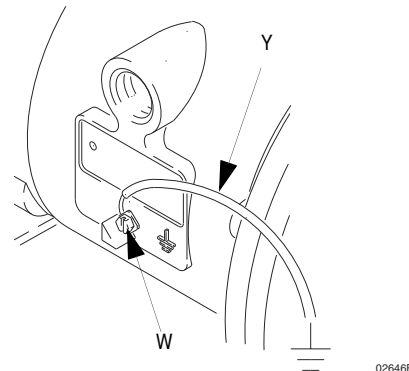

FIG. 1
- *Pump:* Connect a ground wire and clamp as shown in Fig. 1. Loosen the grounding screw (W). Insert one end of a 12 ga (1.5 mm²) minimum ground wire (Y) behind the grounding screw and tighten the screw securely. Connect the clamp end of the ground wire to a true earth ground. Order Part No. 400-295 Ground Wire and Clamp.